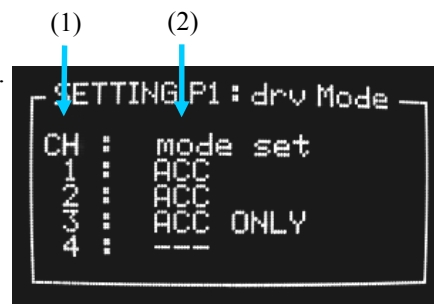

Fig.9 SETTING P1 (e.g.)
6.3.1 Page1: drv Mode details (Fig.9)